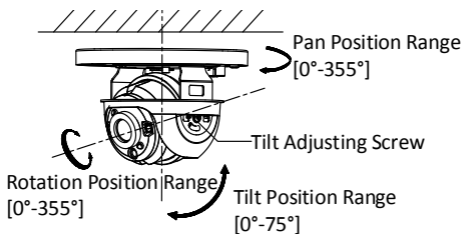

Figure 2-4 3-axis Adjustment
5. Adjust the camera according to Figure 2-4 to get an optimum angle.